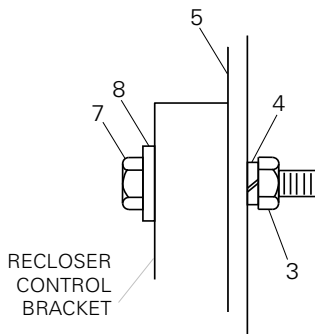

Figure 22. Hardware assembly for mounting the control (Substation Frame Accessory KA89WV11).
3. Secure the bottom of the control cabinet using the same hardware combination as shown in Figure 22.